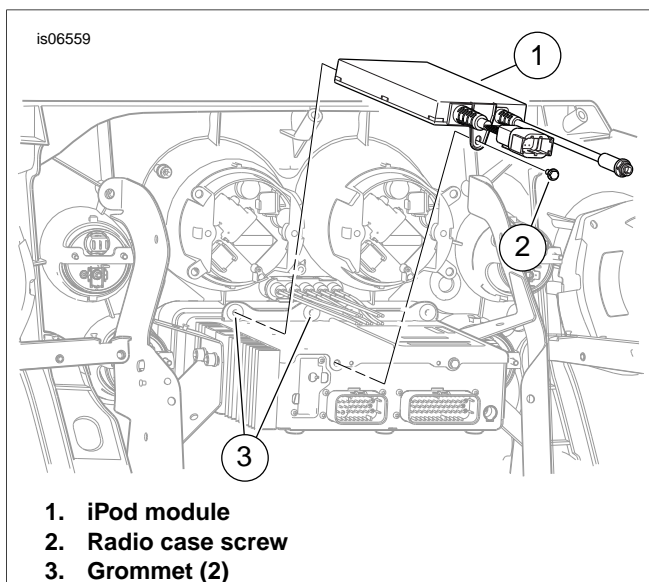

Figure 1. iPod Module Installation
1. See Figure 1. Locate the iPod module (1) on top of the AM-FM radio case:
- a. Remove the screw (2) at the back of the radio.
- b. Position the iPod module on top of the AM-FM radio, with the metal cones on one end of the module fitting firmly into the leftmost rubber grommets (3) at the front of the radio.
- c. Fasten the module to the radio with the radio case screw (2). Tighten to 35-45 **in-lbs** (4.0-5.1 Nm).